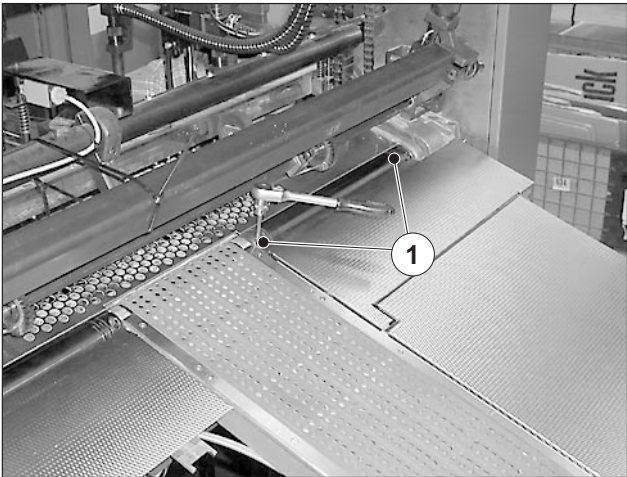

Fig. 83
7. Crank the suction tape drive roller until the screws (Fig. 83/1) on D.S. and O.S. are accessible.
8. Loosen the screws (Fig. 83/1) on D.S. and on O.S.